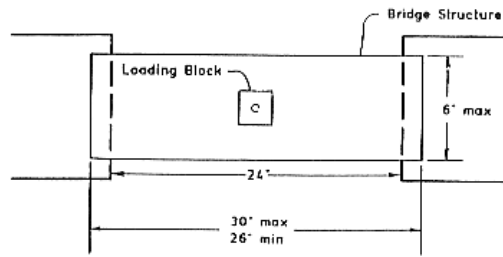

Figure 8
2. Bridges may be **no more** than 30 inches and **no less** than 26 inches long (Figure 8).
3. Bridges may have a maximum width of **no more** than 6 inches (Figure 8).